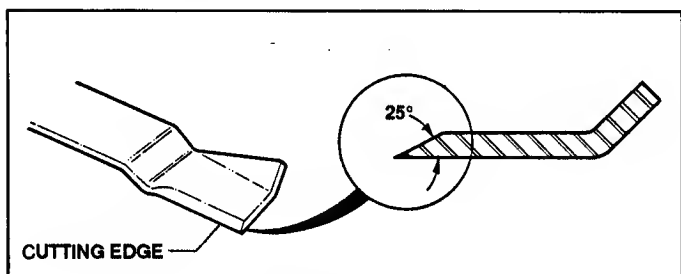

FIGURE 11.13
- When sharpening a blade, maintain the twenty-five degree angle of the cutting edge. Sharpen only the TOP SIDE of each cutting edge. To maintain balance, grind each cutting edge an equal amount. See Figure 11.13.